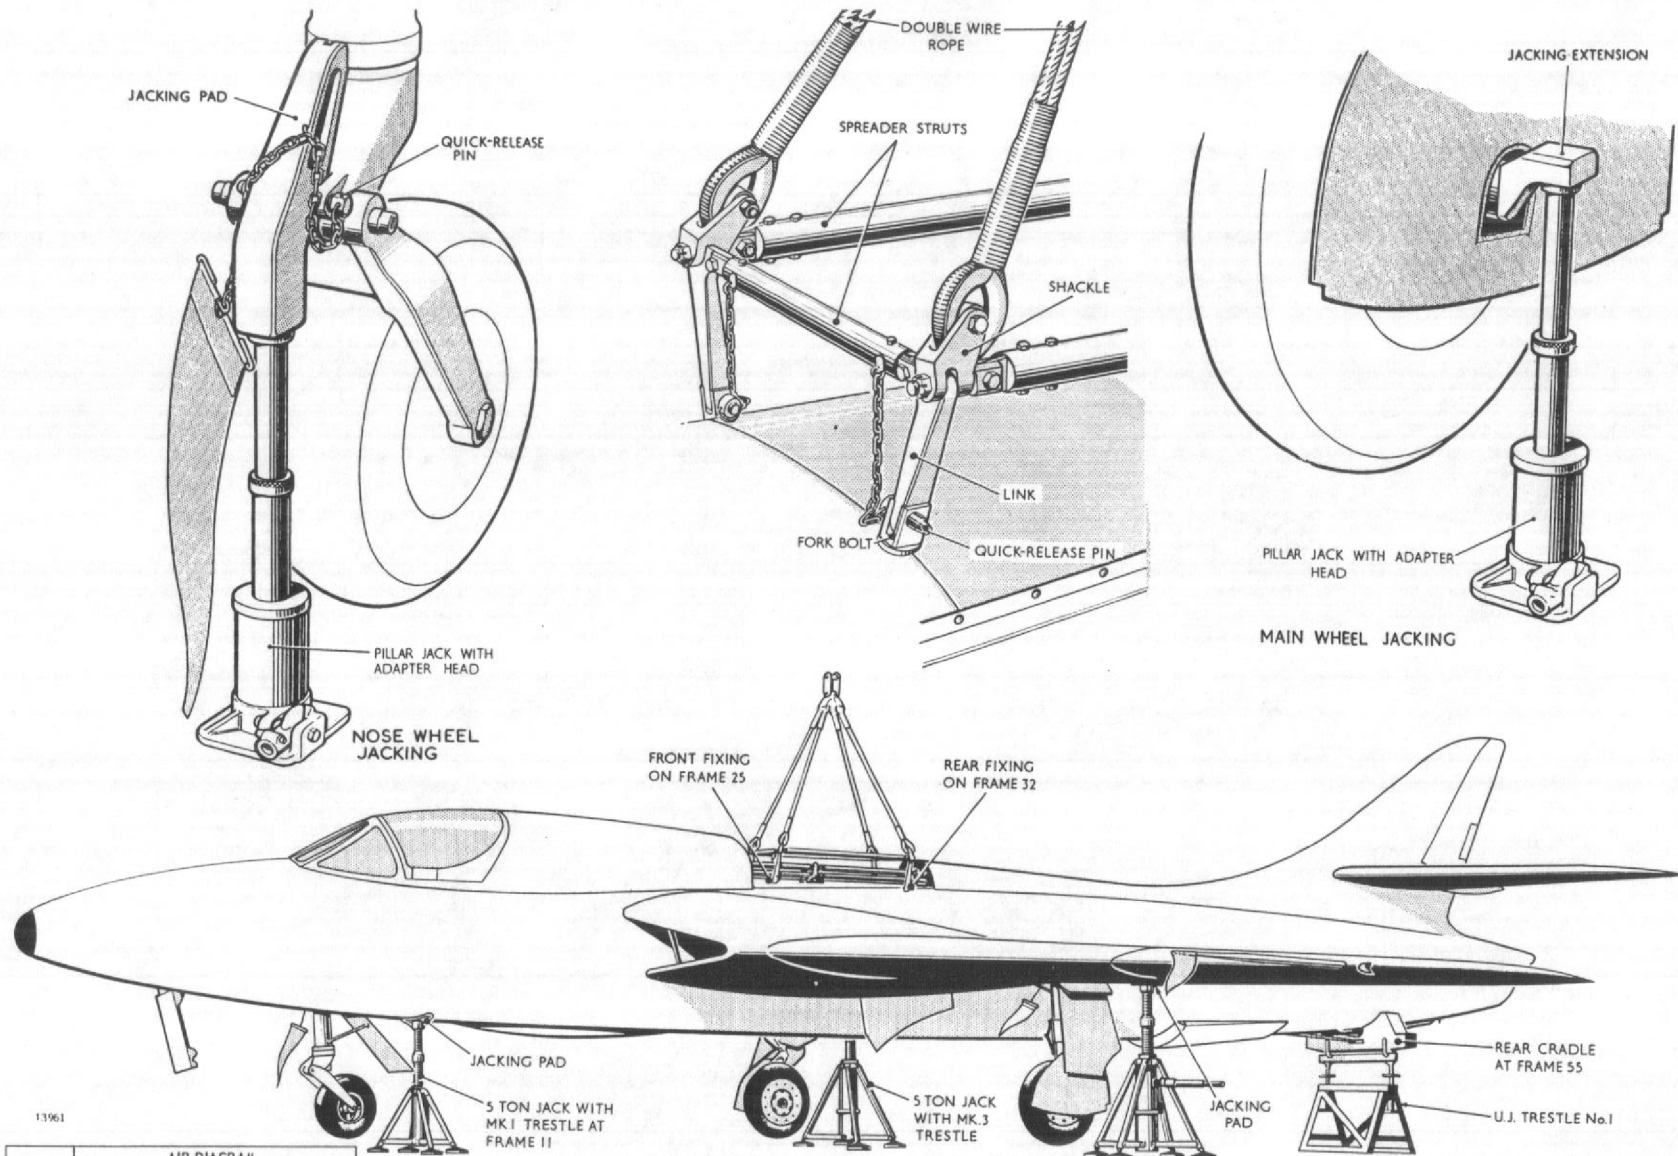

FIG. 2 Jacking, trestling and slinging
- (1) Jack up the aircraft (fig.2) and retract the alighting gear.
- (2) Position the component trestles to fully support the aircraft.
- (3) Remove the outer wings (Sect.3, Chap.2) after removing any external stores which may be fitted.
6. The methods to be employed and the jacks, trestles, etc., to be used when jacking, slinging and trestling the complete aircraft for servicing are illustrated in fig.2. It should be noted that the fuselage jacking pad has a concave bearing surface and must not be interchanged with the wing jacking pad, which has a flat bearing surface.
10. When checking the alignment of the structure by means of the diagonal dimensions given in fig.5, there is no need to trestle the aircraft. When the incidence and dihedral are being checked, the aircraft must be trestled in the flying position, with the equipment shown in fig.2. The procedure for rigging is as follows:—